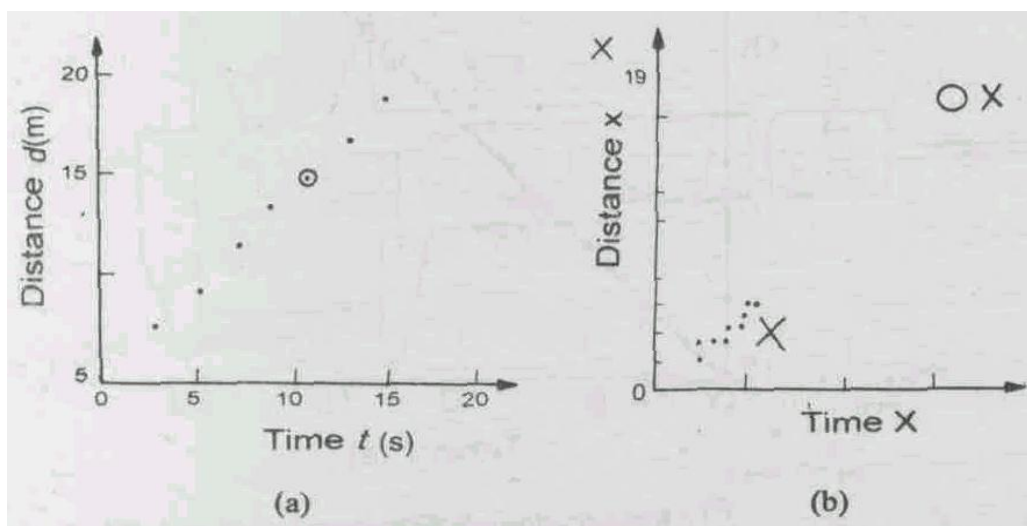

Fig. 1.3 Some (a) Dos and (b) Don'ts to be kept in mind while drawing a graph
- (ii) You should choose the scales so that the points are suitably spread out on the entire graph paper rather than being cramped into a small portion. Note the minimum and maximum values of the data to be plotted. Then round off these numbers to slightly less than the minimum and slightly more than the maximum. The resulting difference should be divided by the number of divisions on the graph paper. For example, if you are to plot 6.4 cm and 18.7 cm, it would be convenient to allow the scale to run from 5 cm to 20 cm rather than 0 to 19 cm (see Fig. 1.3).